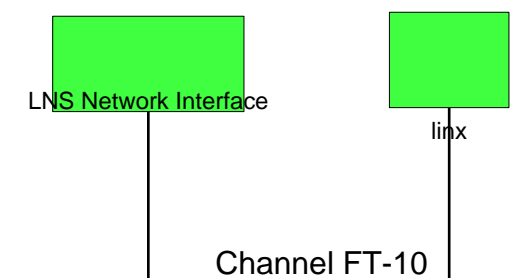

Figure 99: The L-INX has been added to the drawing.
10. Finally, you should get the device added to your drawing as depicted in Figure 99.